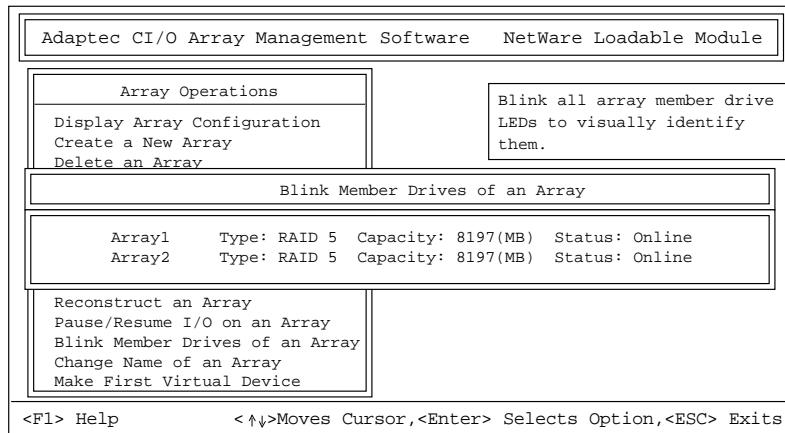

Figure 5-2. Blink Member Drives of an Array Window
2 Select **Blink Member Drives of an Array** from the Array Operations menu. A screen similar to Figure 5-2 appears.
- 2 Select **Blink a Device** from the Device Operations menu. A screen similar to Figure 5-2 appears.